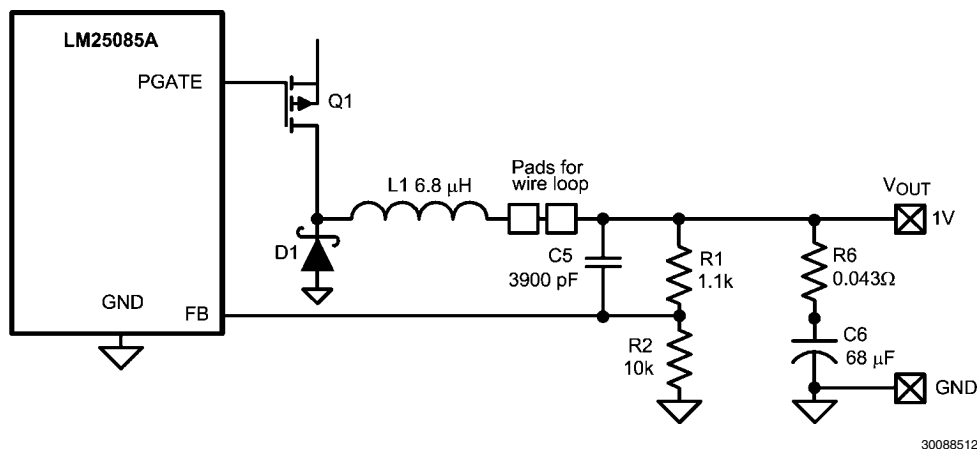

FIGURE 4. Reduced Ripple Configuration
B) Reduced Ripple Level Configuration: This configuration generates more ripple at V_{OUT} than the above configuration, but uses one less capacitor. If some ripple is acceptable in the application, this configuration is slightly more economical, and simpler. R6 and C5 are used instead of R7, C9 and C10, as shown in Figure 4.